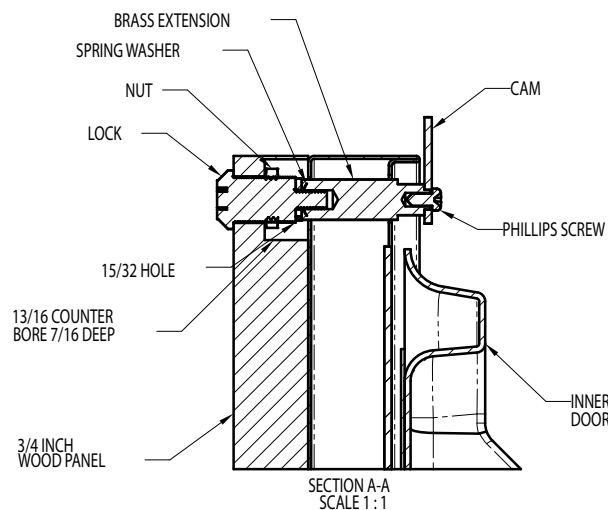

Figure 10
Locate and mark with a pencil the location of the lock hole on the overlay panel, this is the hole in the top corner of the handle side of the door. Remove the clamp and remove the overlay panel from the door. On the backside of the panel where you marked the lock location drill a $\frac{13}{16}$ " (20.5mm) diameter counter bore $\frac{7}{16}$ " (11.0mm) deep into the overlay panel. Drill a $\frac{15}{32}$ " (12.0mm) diameter hole through the overlay panel centered on the counter bore being careful not to splinter the wood on the face side of the panel. (See Figure 10).
Two (2) lock extensions are supplied with the lock. Use the longer extension for a $\frac{3}{4}$ " thick overlay panel and the shorter one for a $\frac{5}{8}$ " thick panel. Assemble the lock extension, cam stop washer, spring washer, and set screw to the lock as shown in Figure 10 and 11. Install this assembly into the overlay panel and secure with the retaining nut using a 15mm socket. Make sure the key slot in the lock is vertical.